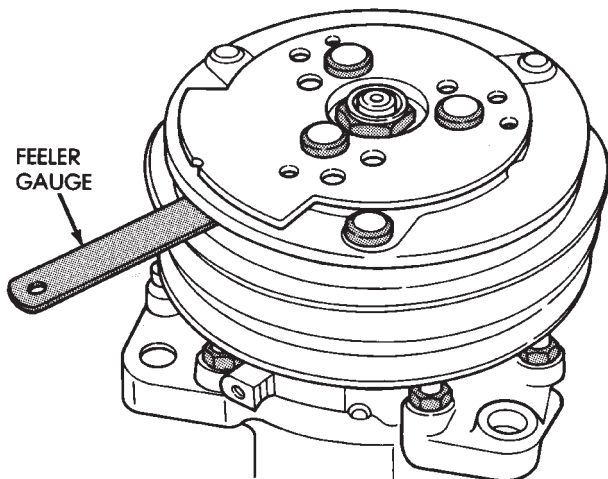

Fig. 30 Check Air Gap
(5) Check the air gap with a feeler gauge (Fig. 30). If the air gap does not meet the specification add or